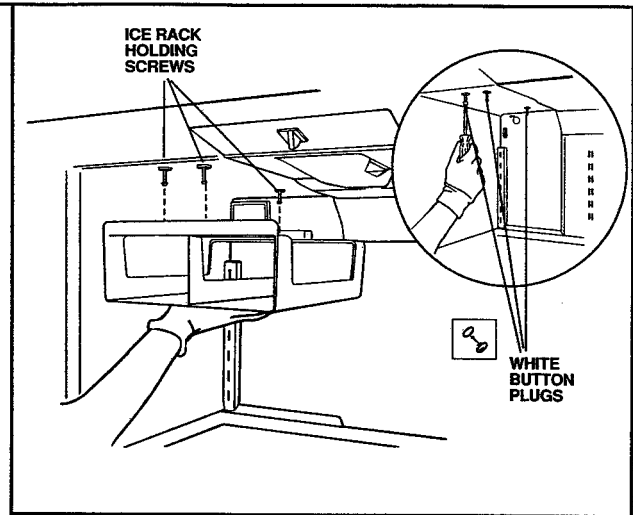

Figure 3
- b. Tug gently forward on the rack to free it from the three (3) holding screws, as shown in Figure 3.
- c. Use the 1/4-inch hex socket and driver to remove and discard the ice rack holding screws. Push two (2) white button plugs into the screw holes.